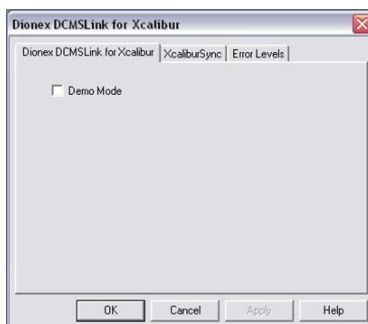

Fig. 7 Do not change anything in the DCMSLink for Xcalibur driver dialog.
- Click **OK** in the **Dionex DCMSLink for Xcalibur** dialog, without changing anything (Fig. 7).